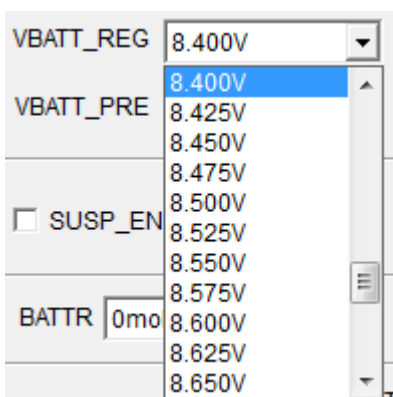

Figure 11: Battery Charge Voltage Regulation Configuration
9. Set the battery charge voltage regulation (see Figure 11).